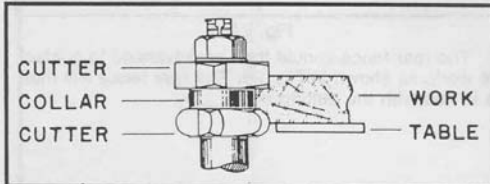

Fig. 32
4. The collar between cutters method, as shown in Fig. 32, has both the advantages and disadvantages of the first two methods and is frequently used where both edges of the work are to be moulded.